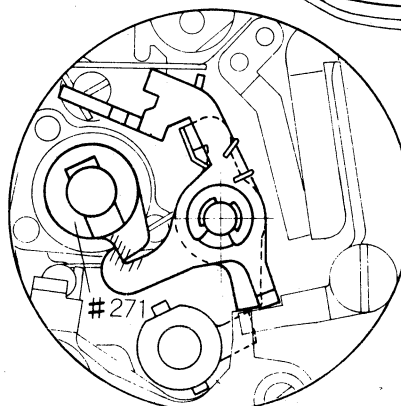

fig. 5-2 Body, wind-side, top
- 2) Install #271 in place as shown in fig. 5-2.